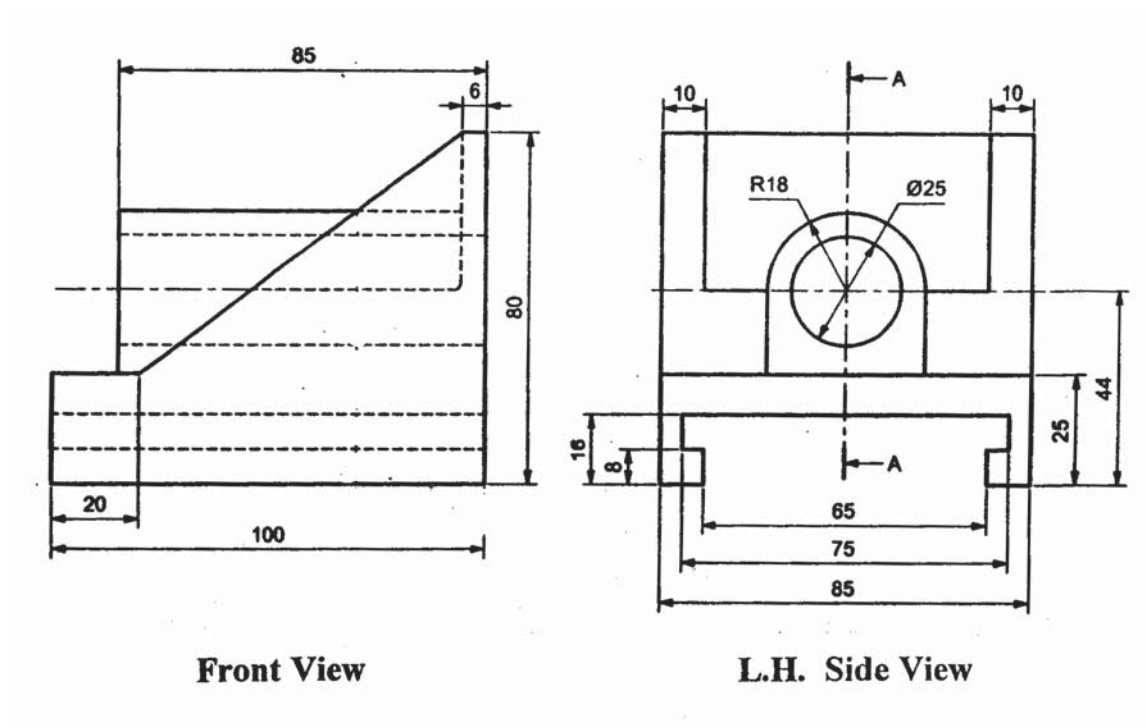

Fig. 7
9. Fig. 7 shows Front View and L.H. Side View of an object. Draw the following views :